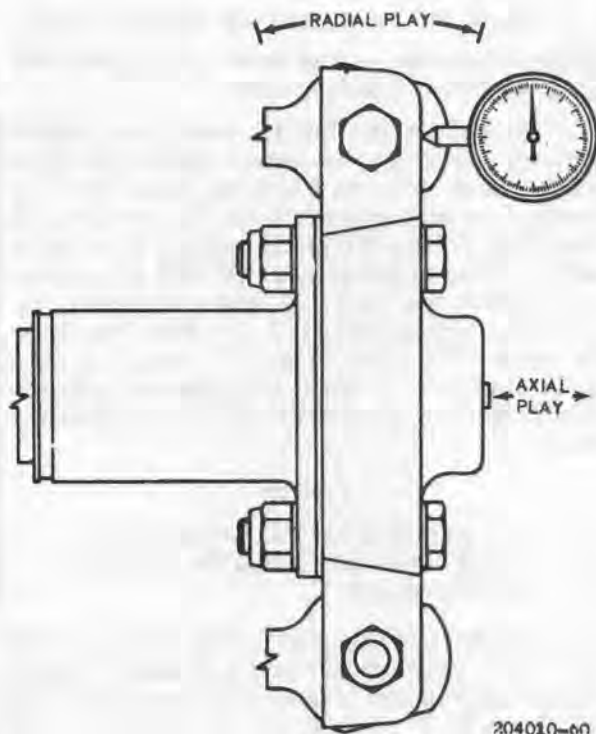

Figure 9-15. Checking tail rotor pitch control for looseness
f. Determine the amount of looseness between the internal spline of the slider assembly and the tail rotor shaft spline and looseness in the tail rotor pitch change thread by means of the following procedure. (See figure 9-15.)
(1) Mount dial indicator on tail rotor gear box shaft with indicator against crosshead as illustrated.
(2) Position left tail rotor control pedal in the full forward position and actuate the crosshead radially as illustrated. Radial play in this position should not exceed 0.020 inch.
(3) Position the right tail rotor control pedal in the full forward position and repeat above procedure. Radial play in this position should not exceed 0.035 inch.
(4) Position pedals in the neutral position and check axial play as illustrated. Move crosshead axially without producing radial play. Axial play in this position should not exceed 0.018 inch. Excessive axial play indicates worn or loose pitch change rod bearings and/or worn pitch change rod thread.